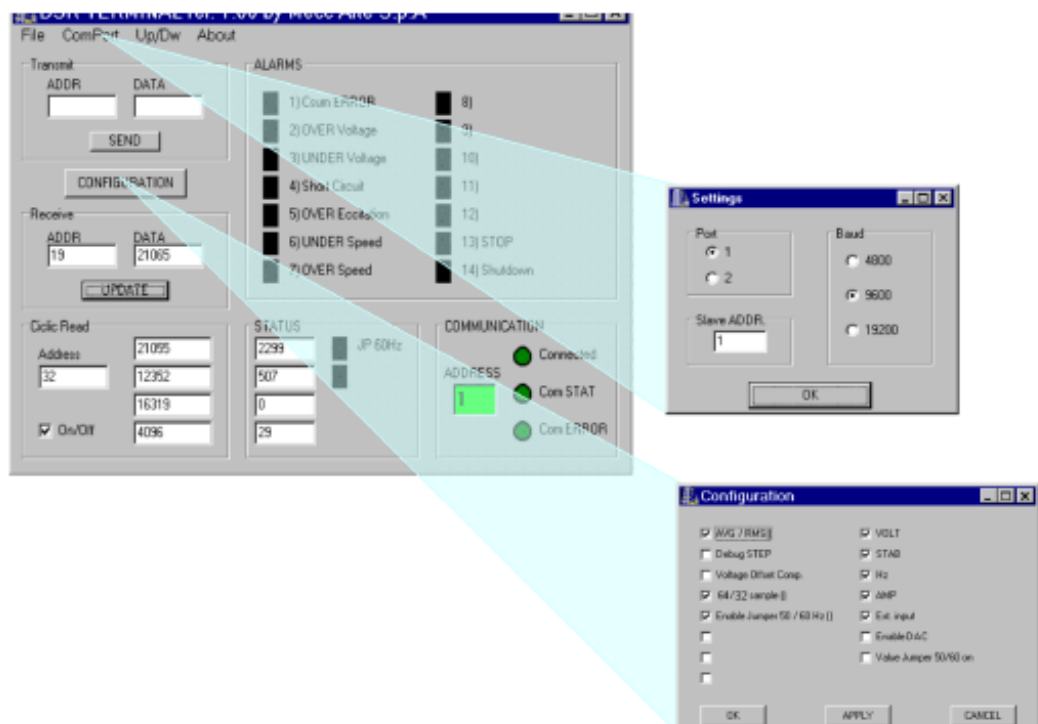

Fig. 11. DSR Terminal user Interface: Settings and Configuration Menu
Upon opening the user interface, the program is presented as indicated in the left part of figure 11.
2. *Settings* opens a window (as shown in figure 11), through which several parameters, concerning communications, can be set: